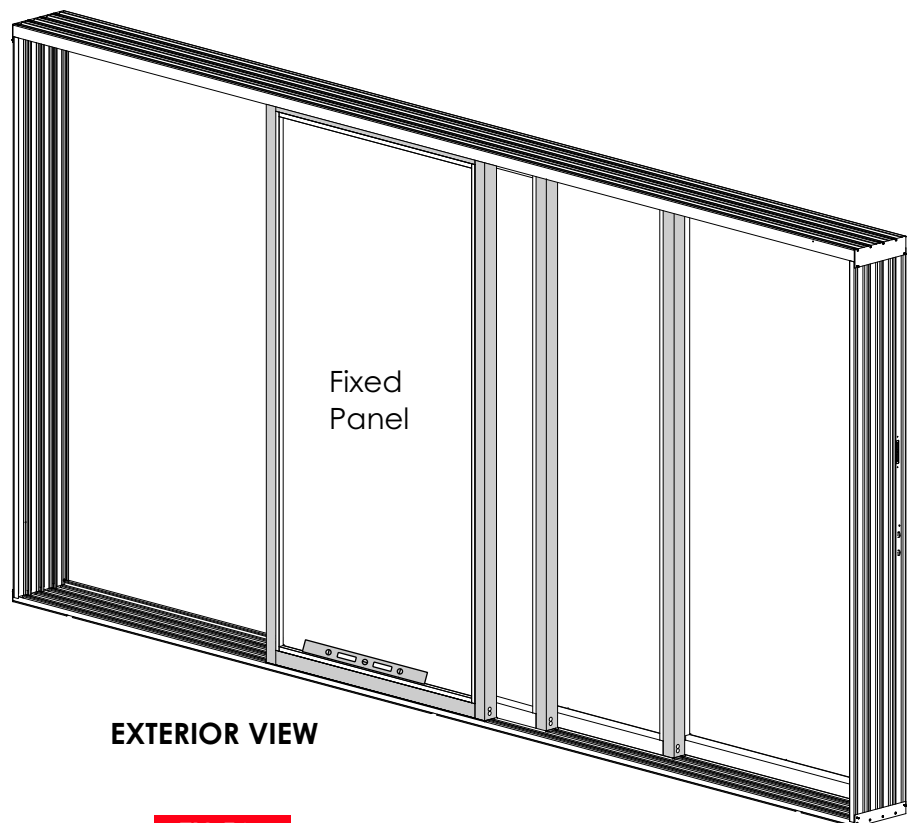

FIG 51
- Continue to adjust the rollers until the edge of Fixed Panel is parallel to the edge of the panel next to it and the gap at the head and sill is equal. **[FIG 51]**